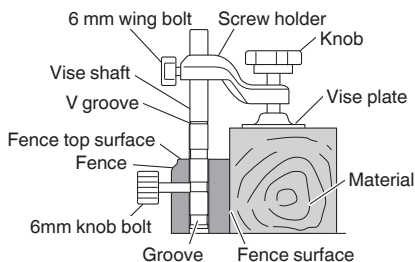

Fig. 43
1. Adjust the tip of the 6 mm knob bolt to the groove of the vise shaft, and tighten the 6 mm knob bolt to fix the vise shaft. (Fig. 43)
2. Adjust the position of the screw holder and tighten the 6 mm wing bolt behind the screw holder to secure the screw holder. (Fig. 43)
3. Firmly press the material against the fence surface and turn the knob to secure it. (Fig. 43)